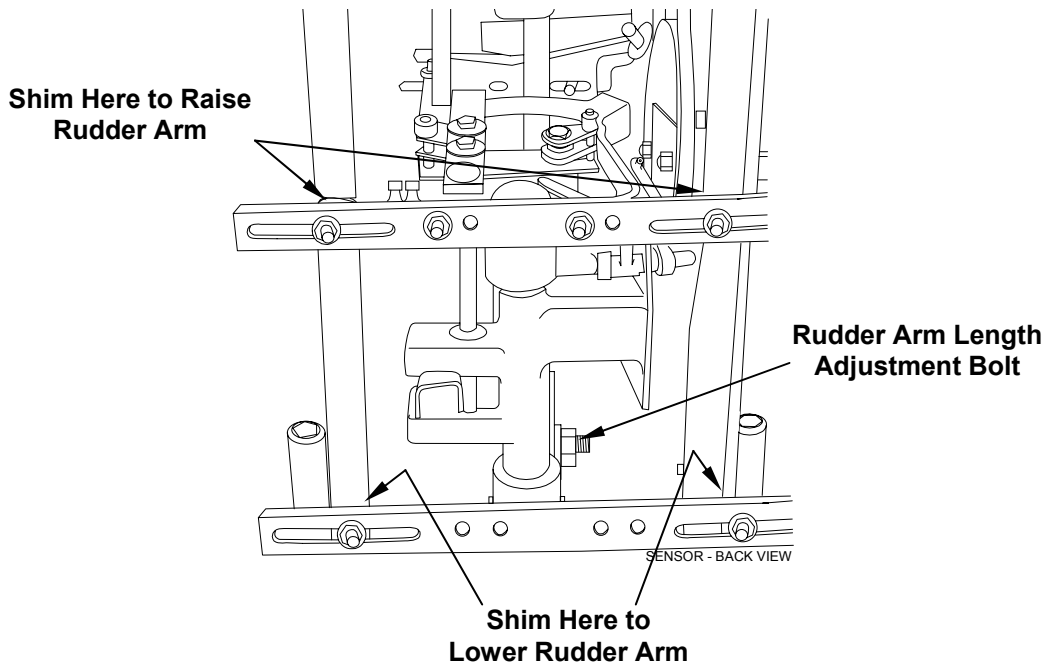

Figure 2-7
5. Move the rudder arm back and forth, so that it touches the rubber bumper on each side plate. The arm should move freely with no interference. If the paddle is not centered in the door opening, it may be necessary to adjust the length of the rudder arm for front-to-back alignment and/or shim the rudder arm support bracket for vertical alignment as shown in Figure 2-7.